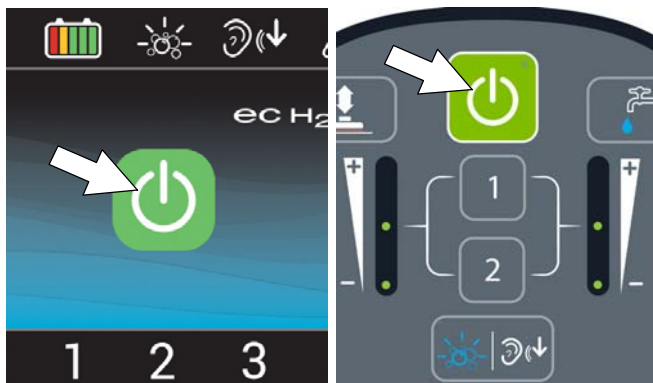

FIG. 77
5. Press the 1-STEP button to activate the scrub function (Figure 77). The scrub head will lower to floor.